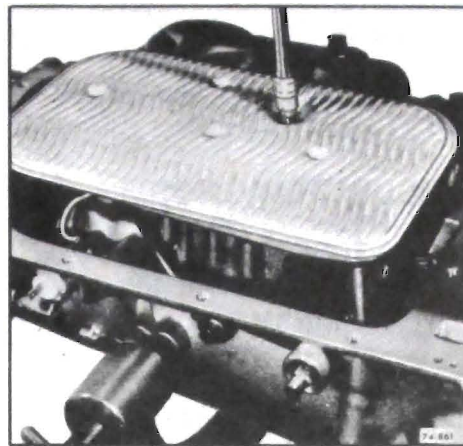

Figure 76-786
2. Install filter and intake pipe assembly attaching filter to valve body assembly with retainer bolt. Torque to 10 lb. ft. See Figure 76-786.